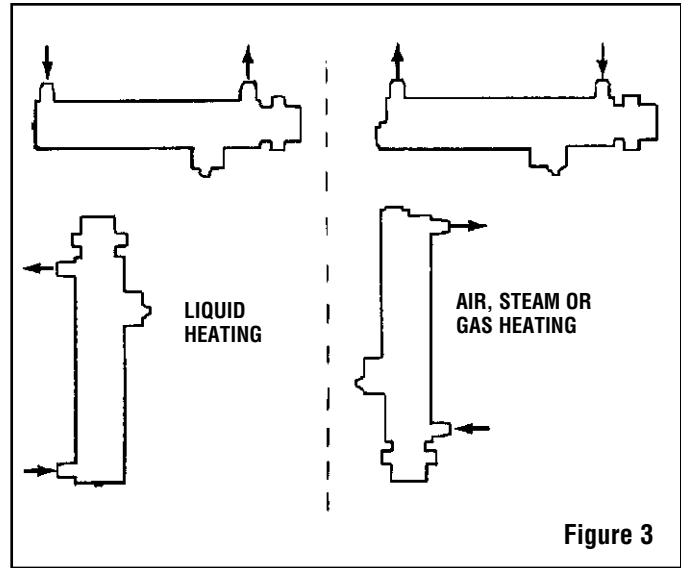

Figure 3
2. Circulation heaters may be mounted either horizontally or vertically. (See Figure 3.) (NOTE: When mounted in the horizontal position the inlet and outlet pipes must be up. If positioned in any other way, the chamber cannot be purged of air and damage to the elements may result). Allow adequate space for removing the element assembly for cleaning or servicing.